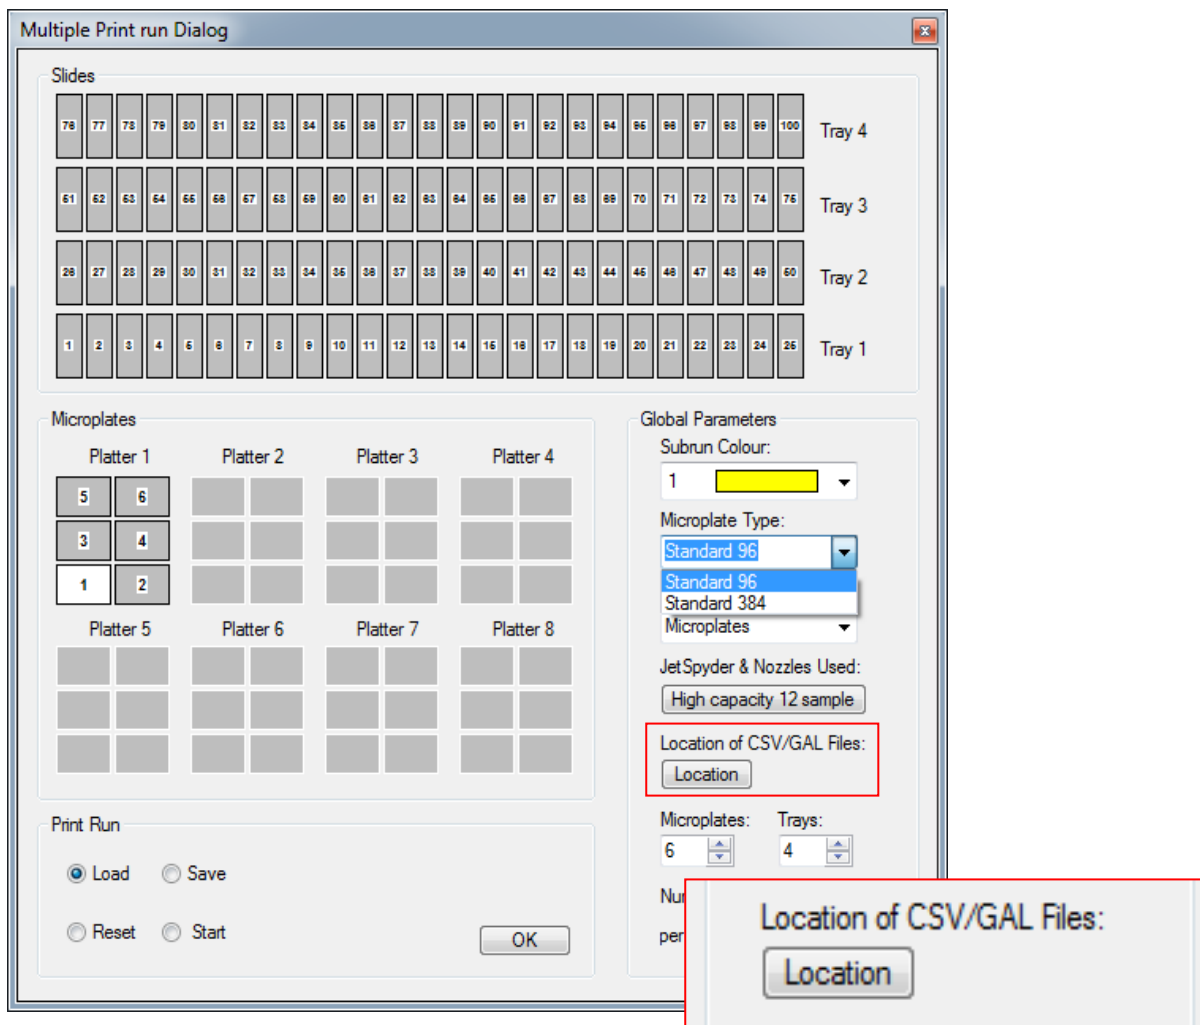

Figure 6-17 Setting CSV/GAL file location
- Choose a location for the CSV/GAL file that will be generated from the print run (**Figure 6-17**)